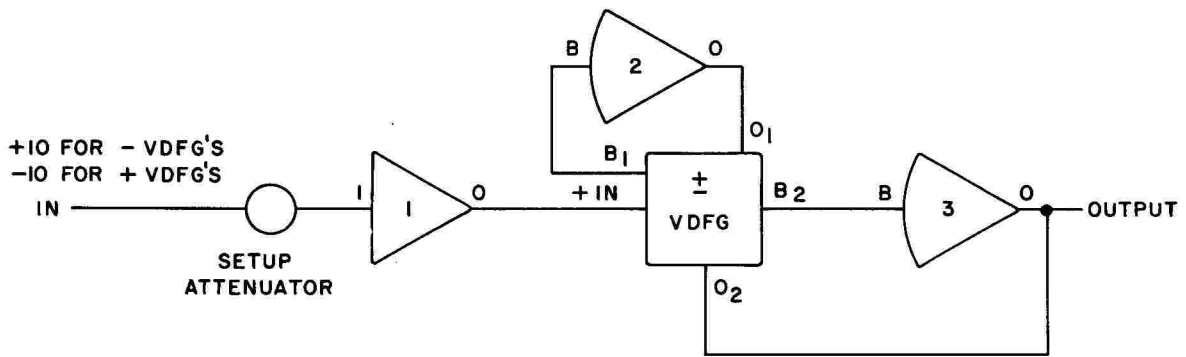

Figure 37. VDFG Test Circuit
(1) Connect the circuit shown in Figure 37. Rotate all potentiometers fully counter-clockwise.
(2) Apply an input of zero volts. Rotate the PARALLAX control. The output should vary from -10 to +10 volts. Set the PARALLAX control for zero volts output.
(3) Apply an input of +1 volt (-1 volt for the 16.154 Unit). Rotate the 1V potentiometer. The output should swing between +2 volts. Set the 1V pot for and output of zero volts.
(1) Patch the circuit of Figure 37. Rotate all BREAKPOINT pots (1 through 10) fully clockwise. Rotate SLOPE POTS 1 through 10 alternately counter-clockwise and clockwise.
(2) With a zero volt input, rotate the PARALLAX control from limit to limit. The output should swing from -10 volts to +10 volts. Set the PARALLAX pot accurately for a zero volt output.
(3) Apply an input of 1 volt (plus for the 16.304; minus for the 16.306). Rotate the CENTRAL SLOPE pot. The output should swing between ± 2 volts. Apply an input of 8 volts (observing polarity) and set the CENTRAL SLOPE pot for an output of zero volts as accurately as possible.
(4) Apply an input of zero volts and rotate the BREAKPOINT 1 pot fully counter-clockwise. Adjust the PARALLAX control for zero volt output. Apply an input of 1 volt, and observe the output. The voltage should be at least 1 volt (plus or minus, depending on the direction of the slope). Apply an input of zero volts and rotate the SLOPE 1 pot fully in the opposite direction (clockwise, for example, if it had been counter-clockwise). Adjust the PARALLAX pot for an output of zero volts. Apply an input of 1 volt. The output should again be at least 1 volt (with a polarity opposite to that of the previous test). Again rotate the BREAKPOINT 1 pot fully clockwise. Apply zero volts in, and adjust the PARALLAX control for zero volts output.
(5) Apply an input of 1 volt, again observing polarity. Rotate the BREAKPOINT 2 pot counter-clockwise until the output goes ± 100 millivolts. Apply an input of 2 volts. The output voltage should be at least ± 1.1 volts. Rotate the SLOPE 2 pot to its opposite limit. The output should again be ± 1.1 volt (polarity opposite to that of previous reading). Rotate the BREAKPOINT 2 pot fully clockwise.
(6) Repeat Step (5) for 2, 3, ..., 9 volts in and breakpoints 3, 4, ..., 10. In each case, the appropriate BREAKPOINT pot is adjusted for an output of ± 100 millivolts with a given input. The input is then increased by 1 volt and the output examined. If each network is capable of producing a slope of 1 volt per volt, the output should increase by 1 volt as the input increases by one volt. Difficulty with any of the tests immediately isolates the problem to a given diode network.